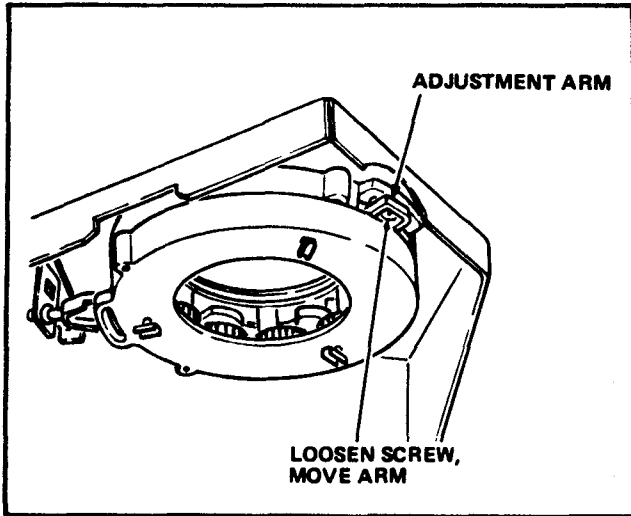

Figure 3-8. Cup Drop Ring Adjustment
2. Loosen the Screw on the Adjusting Arm. See Figure 3-8.